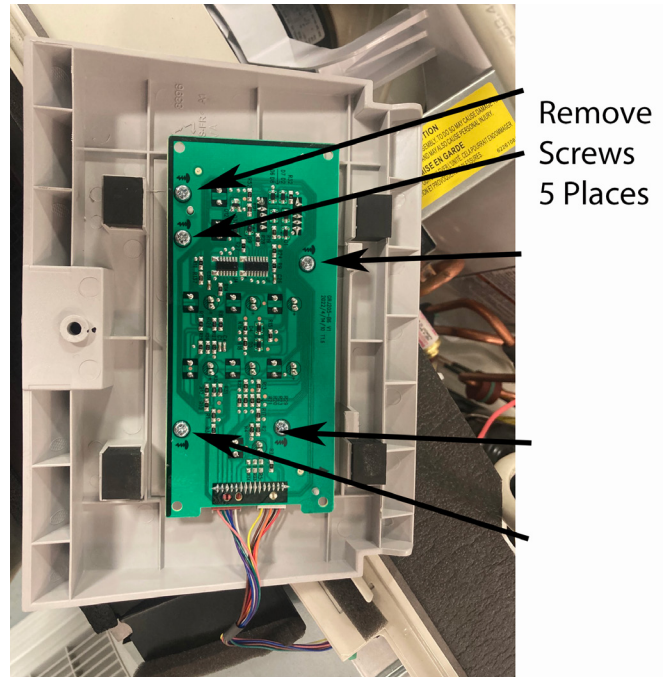
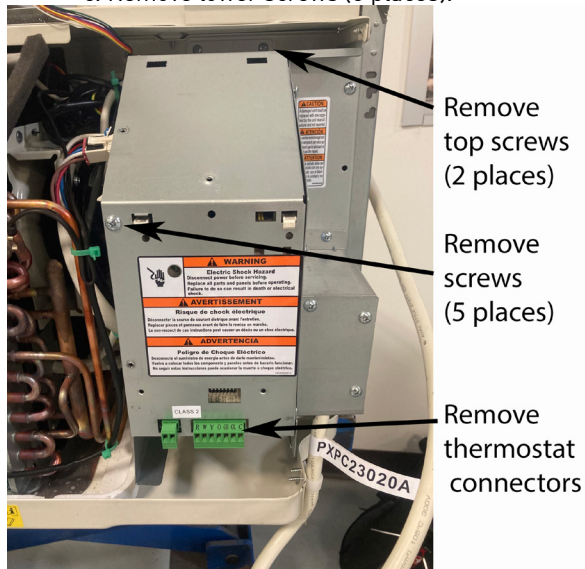
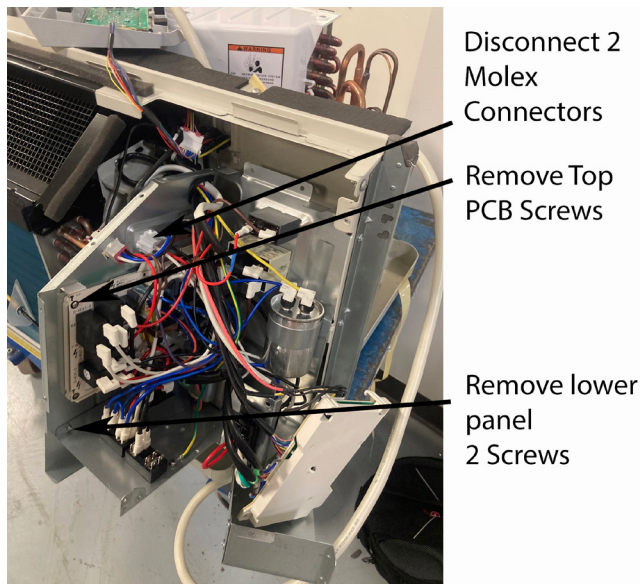

Figure 504
Figure 507
Figure 512
2. Remove 5 screws attaching display PCB to cover. See figure 504.
4. Remove PCB Access Panel. See Figure 507.
9. Remove lower panel (2 screws.) See figure 512.
10. Disconnect 2 Molex Connectors See figure 512.
12. Remove 2 top screws from Power Board and separate from supporting board. See figure 512.
2. Remove Display Board (See Figure 504), and separate Electrical Box from unit by removing top 2 screws (See Figure 507), disconnecting 2 mox connectors (See Figure 512), and sliding box up and out.